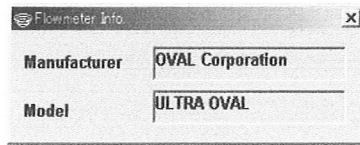

Fig.19
- ① Click on "View (V)" at top-level menu of the screen, select "Flowmeter info. (T)" and click on again.
- ② A message box as shown in Fig. 19 appears, indicating the flowmeter information.